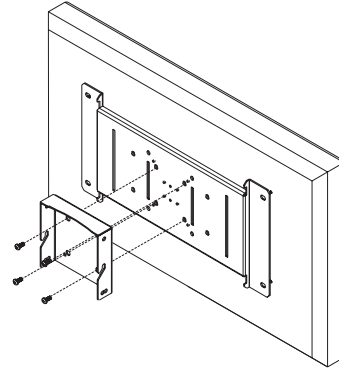
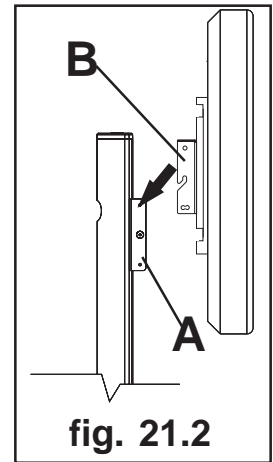

fig. 21.1
fig. 21.2
21 Attach hook plate (B) to the back of adapter plate as shown in fig. 21.1. Then attach hook plate (B) to screen mount bracket (A) as shown in fig. 21.2.